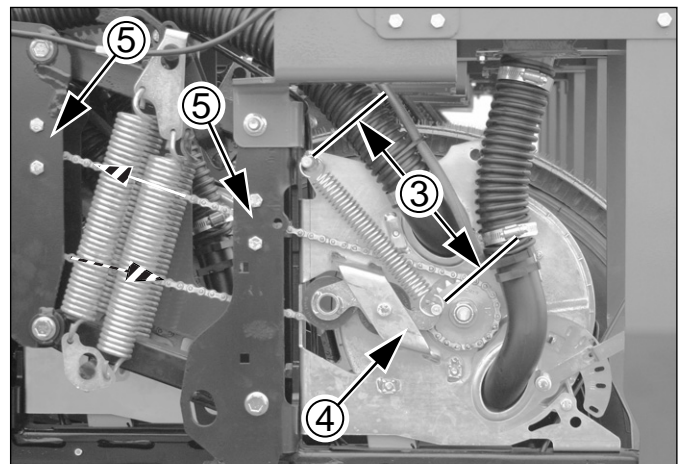

Figure 93
*Refer to Figure 93 (which depicts planter raised)*